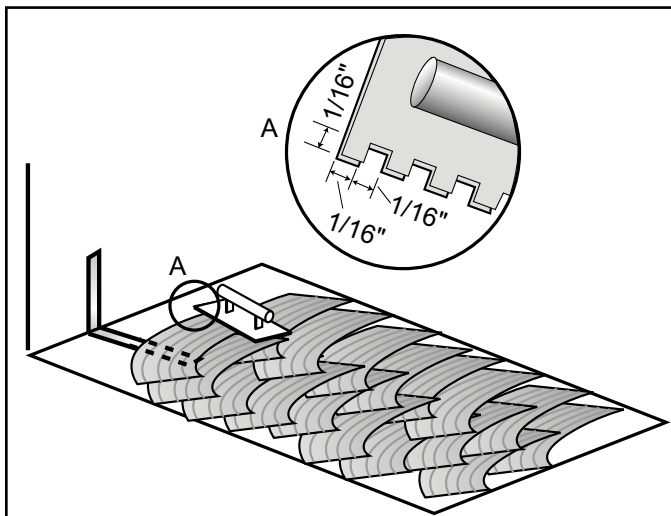

Figure 3. Spreading 8453 Conductive Floor Tile Adhesive.
- Mix the adhesive thoroughly, following instructions on the container. Spread adhesive over the first marked section, using the designated trowel size. (For 8453 Conductive Floor Tile Adhesive, the proper notch size is 1/16" square notches on 1/16" centers.) (Figure 3) Allow the applied adhesive to sit for about 20 minutes before laying tile to allow any residual solvent to “flash off.” Spread the adhesive directly over any copper ground strips. Working time for the mixed adhesive is roughly one hour, but this time can vary with ambient conditions.